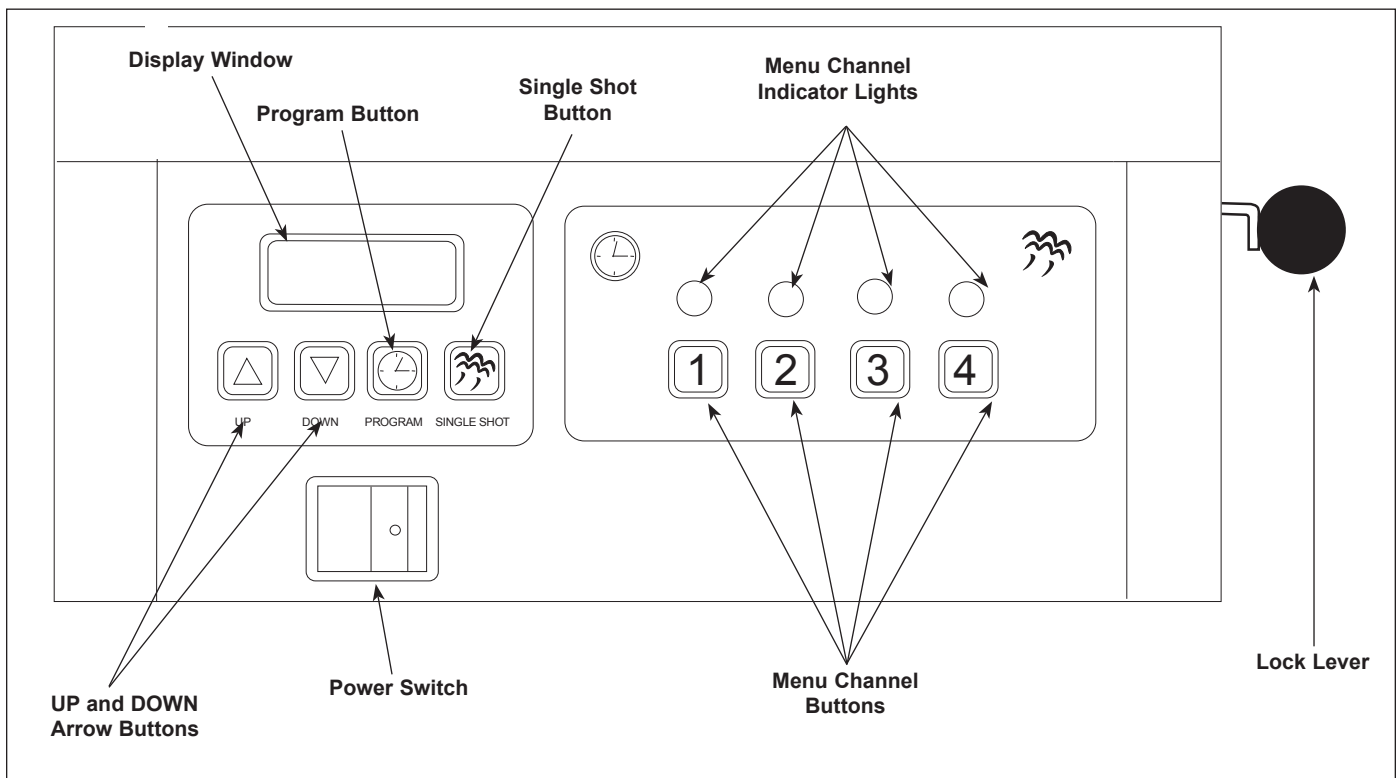

Figure 3. Operator Controls
The **SINGLE SHOT** button (Figure 3) is pressed and released to initiate a single shot. The Control Board applies power to the solenoid and a single shot of steam occurs.
The desired timed steaming cycle (up to 99 minutes and 59 seconds) is selected by pressing and releasing any of the four menu buttons (Figure 3). The main Control Board applies power to the solenoid at regular intervals for the duration of the displayed cycle time. The display counts down to zero when the cycle is complete, then reverts back to the original programmed cycle time and the unit is ready for the next cycle.
The actual generator temperature can be viewed by depressing the **UP ARROW** button (Figure 3) at any time. The arrow buttons are used with the other buttons to program the unit (see the Programming section of this manual for more information).
1. Turn the power on (Figure 3). Allow 30 minutes to preheat the unit.